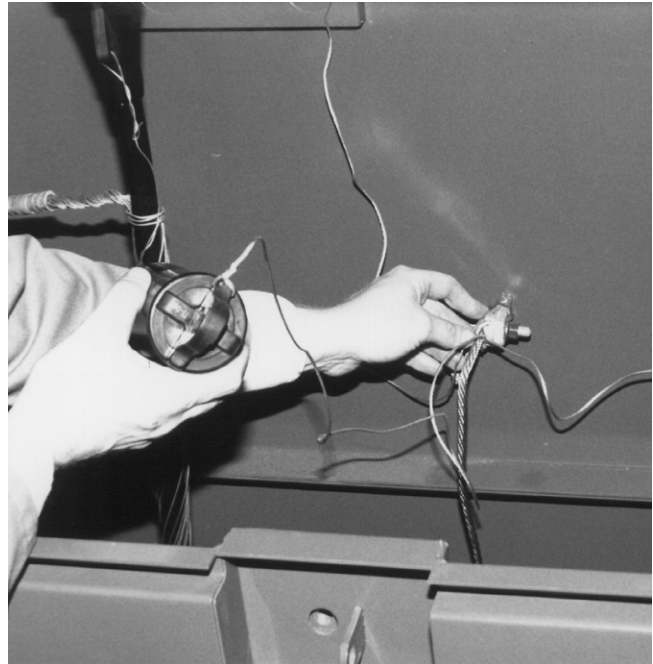

Figure 2. Attach drain wire to system ground bus
- Always attach drain wire to system ground bus (Figure 2).